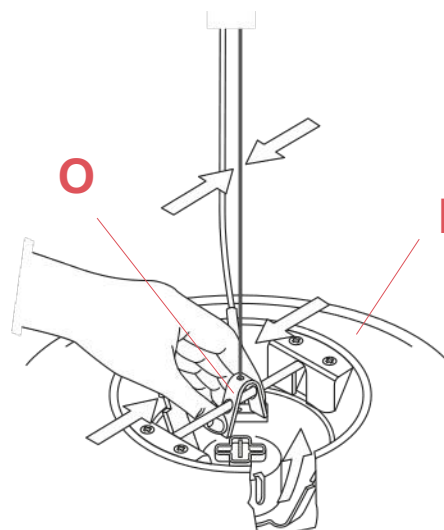

Fig.9
To balance the diffuser (I), regulate the spring (O) on the horizontal axis. (fig.9)